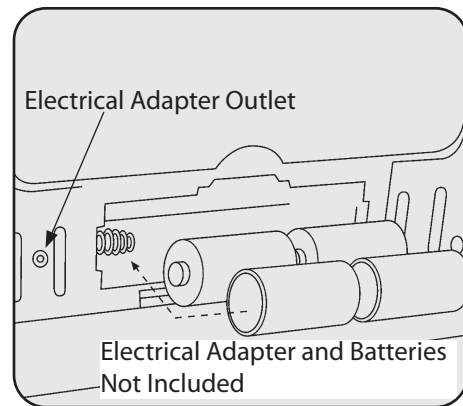

Figure 7
10. Installation of 4 D-cell batteries is required for fan operation. Battery box is located on lower back panel of heater. Follow instructions on battery cover for correct battery installation. See Figure 7.
11. Heater fan can also be powered by electrical adapter F276127. Required adapter to be 6 volt DC up to 800 milliamp current with positive tip polarity. See Figure 7.
13. Installation of 4 D-cell batteries is required for fan operation. Battery box is located on lower back panel of heater. Follow instructions on battery cover for correct battery installation. See Figure 7.
14. Heater fan can also be powered by electrical adapter **F276127**. Required adapter to be 6 volt DC up to 800 milliamp current with positive tip polarity. See Figure 7.